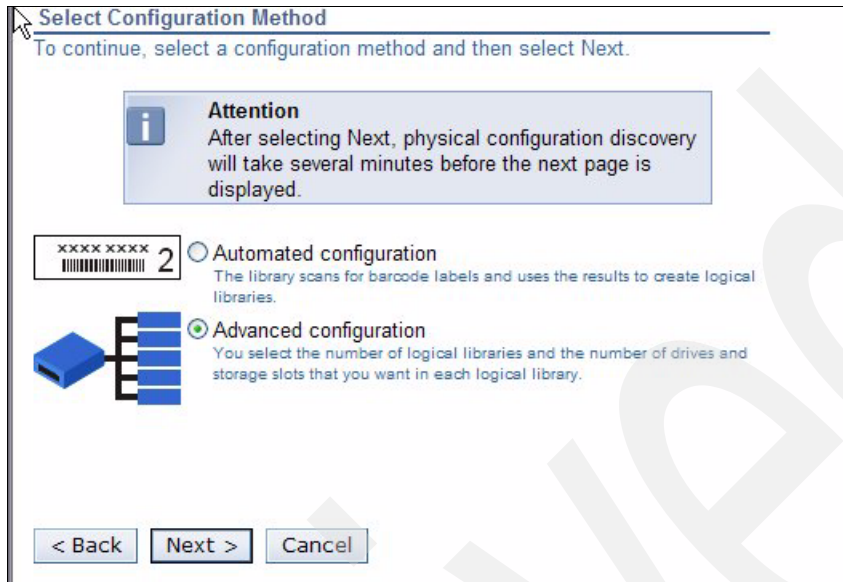

Figure 2-30 IBM TS3500 Tape Library Specialist configuration wizard
- The **Select Configuration Method** window displays (Figure 2-30), showing the alternatives: **Automated configuration** (configuration with barcode labels) or **Advanced configuration**. Select **Advanced configuration** and click **Next**.